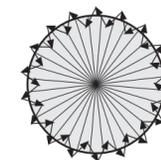

FIG.18
4.4.1.4 Walk from outside across to the detection pattern until red LED or green LED turns on for approx. 2sec then off, the next trigger should be 2sec interval (See FIG.18).
4.4.2.5 Walk from outside across to the detection pattern until load turns on for approx. 2sec then off, the next trigger should be 2sec interval (See FIG.18).